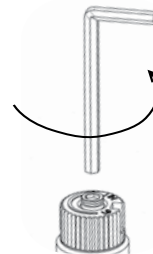

Fig.2
- 6) Insert a 5/32" or 4mm Allen wrench into the hexagonal key-way of the screw (Fig. 2), rotate it counter-clockwise until it is free and extract it.